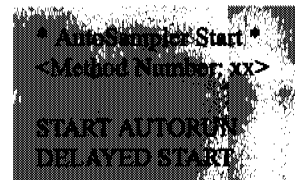

Figure 4.2. Autosampler Start menu
1. Press [Auto] to start the autosampling procedure. The Autosampler Start menu displays (Figure 4.2):